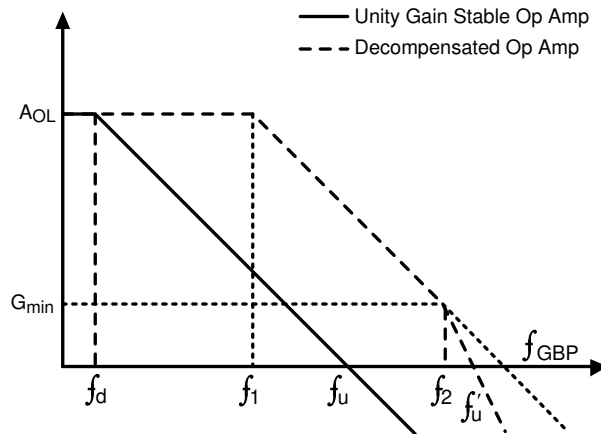

图 8-5. Gain vs Frequency Characteristics for a Unity-Gain Stable Op Amp and a Decompensated Op Amp
As shown in Figure 8-5, the dominant pole f_d is moved to the frequency f_1 in the case of a decompensated op amp. The solid A_{OL} plot is the open-loop gain plot of a traditional unity-gain stable op amp. The change in internal compensation in a decompensated amp such as the OPAX607-Q1, increase the bandwidth for the same amount of power. That is, the decompensated op amp has an increased bandwidth to power ratio when compared to a unity-gain stable op amp of equivalent architecture. Besides the advantages in the above mentioned parameters, an increased slew rate and a better distortion (HD2 and HD3) value is achieved because of the higher available loop-gain, compared to its unity-gain counterpart. The most important factor to consider is ensuring that the op amp is in a noise gain (NG) greater than G_{min} . A value of NG lower than G_{min} results in instability, as shown in Figure 8-5, because the $1/\beta$ curve intersects the A_{OL} curve at 40 dB/decade. This method of analyzing stability is called the *rate of closure method*. See the precision lab training videos from TI for a better understanding on device stability and for different techniques of ensuring stability.